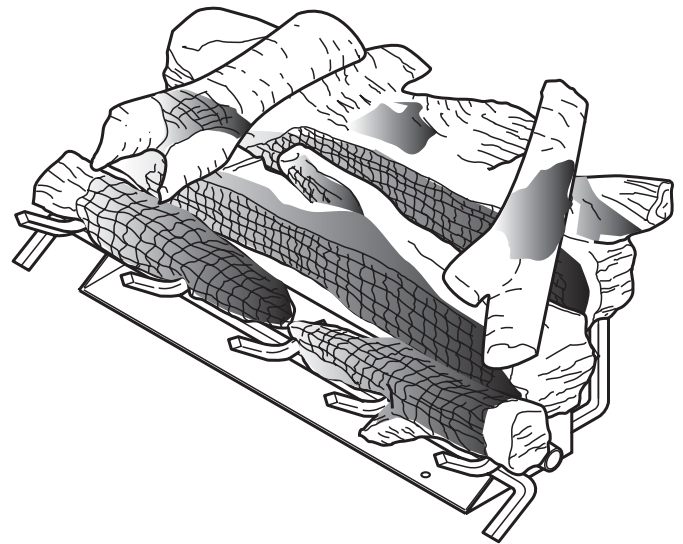

**Figure 65 - Placing Right Crossover Log (#8)**
8. Place Right Crossover Log #8 on Log #5 and Log #7. See *Figure 65*.
1. Slide shield plate down back of burner pan. *See Figure 65.*